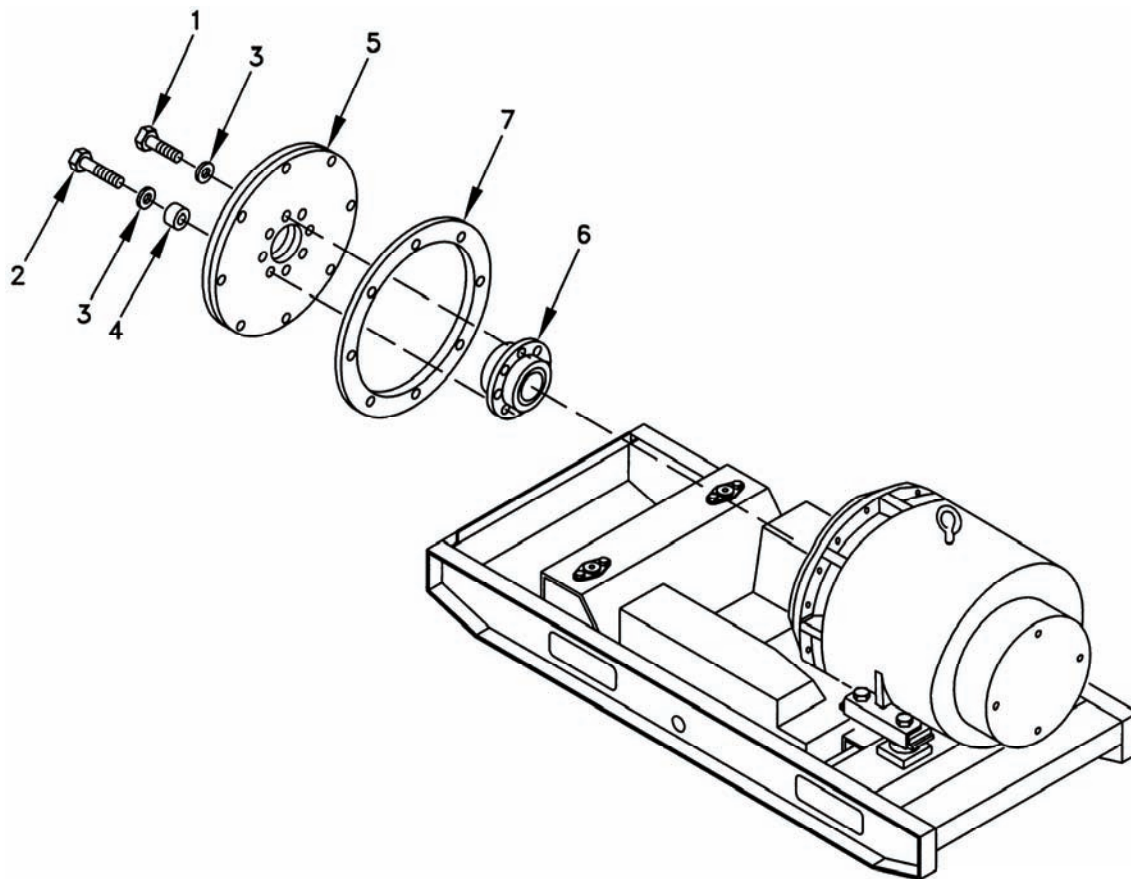

Figure 5-26.1. Inertia Ring.
- a. Remove bolts (1 and 2, Figure 5-26.1), washers (3), spacers (4), and drive discs (5) from generator drive hub (6).
- b. Place inertia ring (7) (Item 115, Table 5-1) on generator shaft just inside drive hub (6).